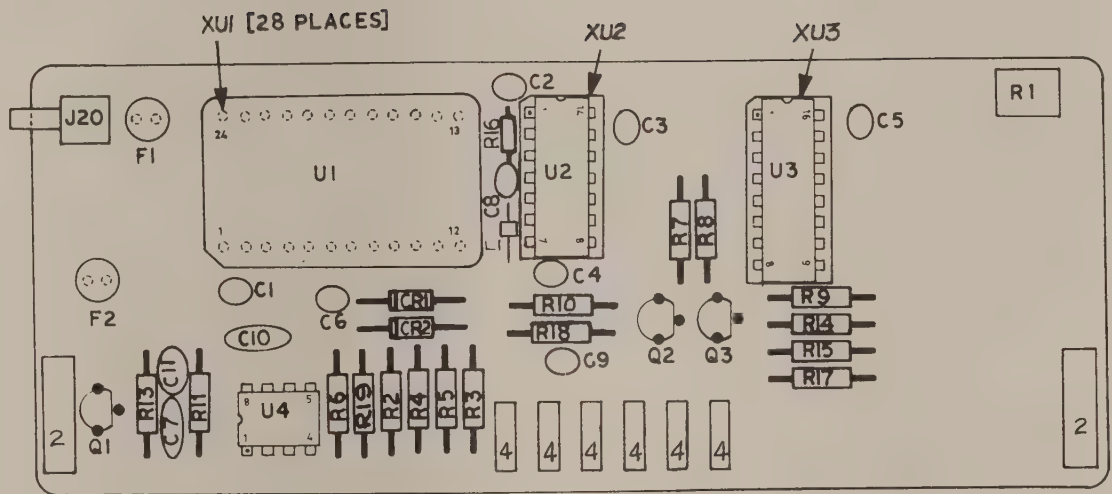

Figure 613-2. 1 GHz Prescaler PCB, Assembly
613-17. Table 613-1 is a list of replaceable parts for the 1 GHz prescaler. Refer to Section 5 for explanation of columnar entries. The component locations are illustrated in Figure 613-2.
-13	1 GHz PRESCALER PCB ASSEMBLY (1953A-1227) Figure 613-2